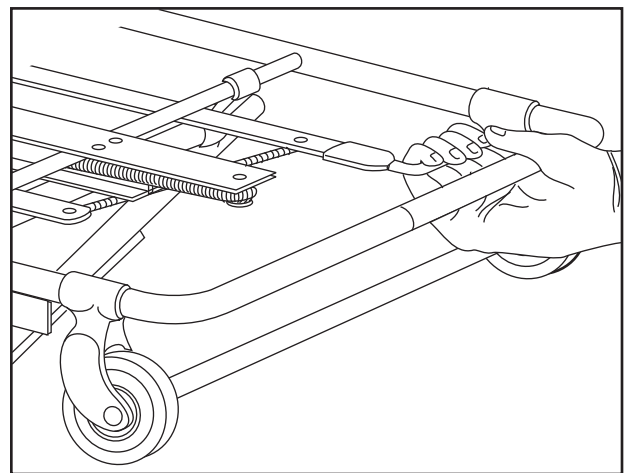

Figure 11 - Head-End Control Handle
- The head-end control handle (Figure 11) unlocks the front legs.